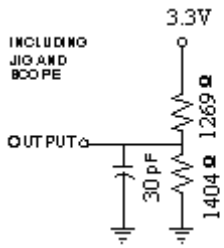

FIGURE 1A
5. Test conditions assume signal transition times of 5ns or less, timing reference levels of  $0.5V_{CC}$ , input pulse levels of 0V to  $V_{CC}$  and output loading specified in Figure 1A.
9. Test conditions assume signal transition times of 5ns or less, timing reference levels of  $0.5V_{CC}$ , input pulse levels of 0V to  $V_{CC}$  and output loading specified in Figure 1A.